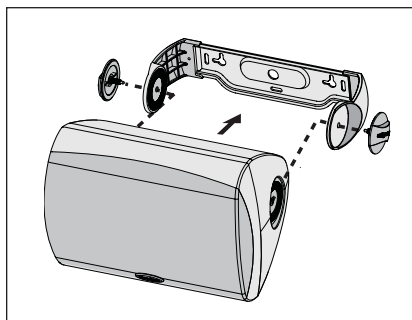

Fig. 4
4. Pull the bracket slightly apart and carefully fit the speaker into the bracket, one end at a time to avoid scratching the surface of the enclosure (Fig. 4).